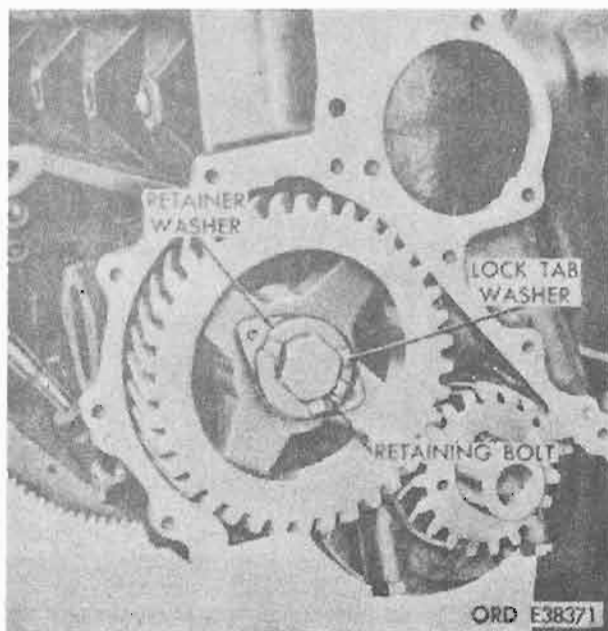

Figure 4-104. Camshaft gear retaining bolt.
e. **Camshaft Gear Retaining Bolt**. Straighten tangs of lock tab washer securing camshaft gear retaining bolt and remove bolt, lock tab, and retainer washers. It may be necessary to hold crankshaft to keep it from turning (fig. 4-104).